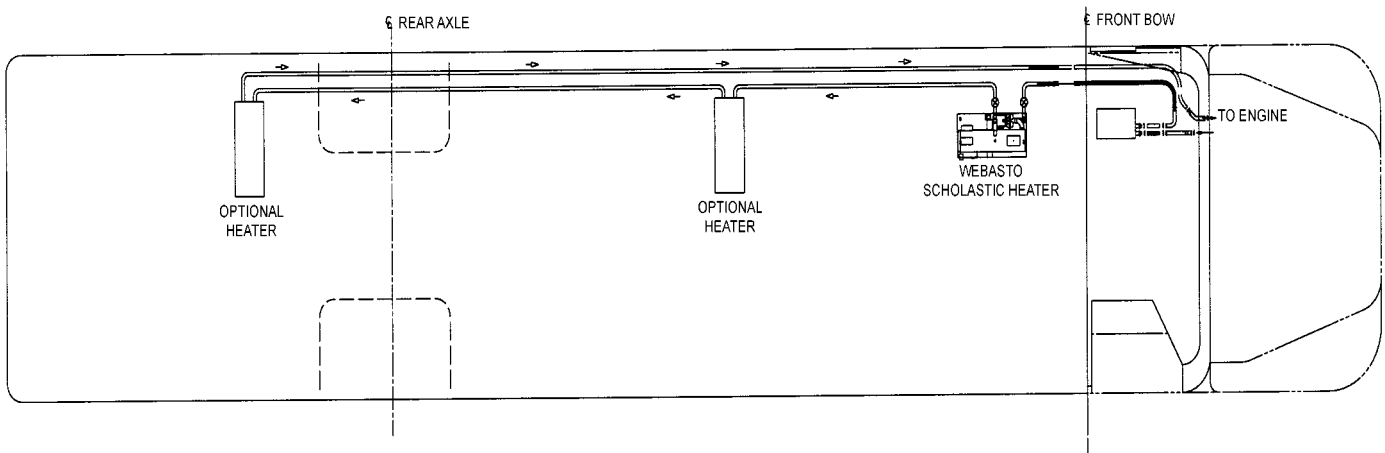

Fig. 5-4: Series Plumbing Circuit - Conventional Model
3. Plumb into the system as shown in figure 5.4 or 5.5.